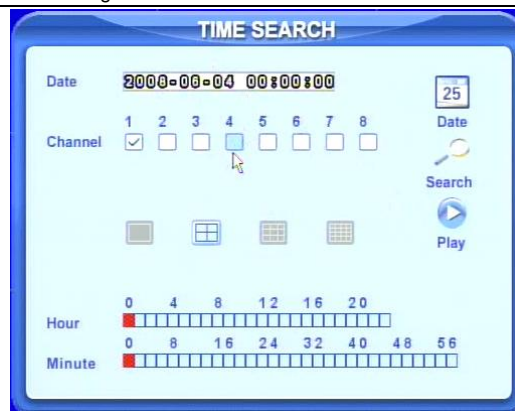

Fig 3.15 Time Search
STEP2 Choose a day to time search interface, as Fig 3.15 Time Search.